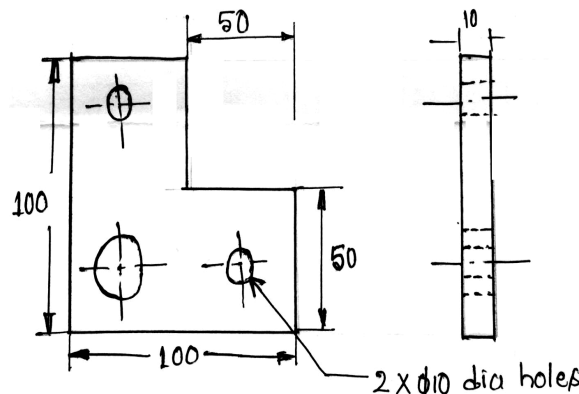

Fig Q7(b) All dimensions in mm
- b. The component to be machined is shown in Fig Q7(b). Develop a CNC program to drill all the holes.